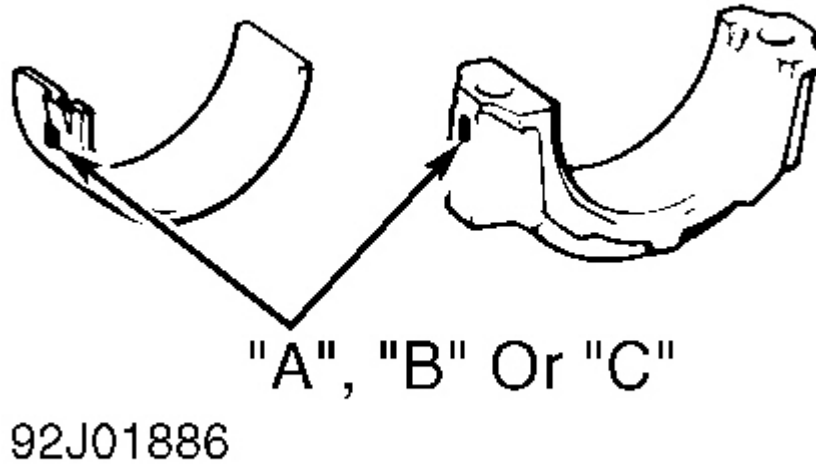

Fig. 13: Identifying Connecting Rod Cap & Bearing Size Marks
2. Connecting rod cap and rod bearing are stamped with size mark "A", "B" or "C". See **Fig. 13** . Ensure size marks on connecting rod cap and rod bearing are the same. Rod bearing thickness is determined by rod bearing size mark. See **ROD BEARING SPECIFICATIONS** table.